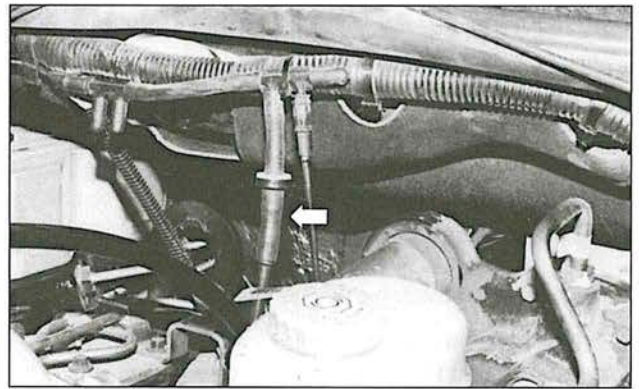
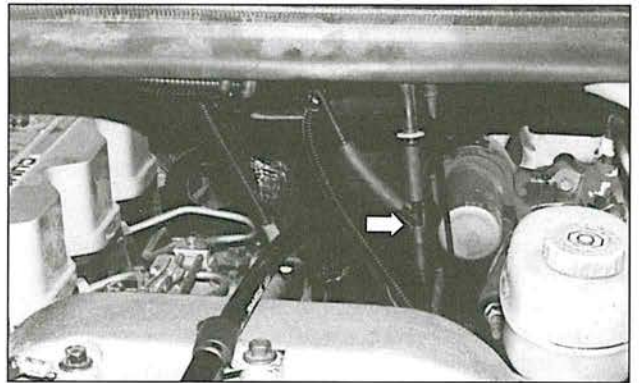

Fig. 13
Fig. 14
**5C. Vacuum supply – '97 - '98 vehicles (refer to Figure 13).**
- a. Locate the 1/4" plastic vacuum line from the vacuum pump to the vacuum harness (see Fig. 13).
- b. Disconnect the vacuum line from the vacuum harness below the check valve (arrow, Fig. 13). Attach the supplied 1/4" x 1 1/2" hose to the check valve. Insert the supplied "Y" connector into the 1/4" x 1 1/2" hose (arrow, Fig.14). Attach the Y connector to the vehicle vacuum harness. Attach the supplied hose to the remaining end of the Y connector (Fig. 14)